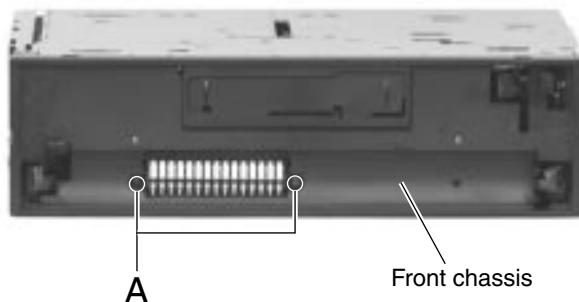

Fig.4
■ Removing the front chassis (See Fig.4,5)
■ Removing the head board (See Fig.4)
REFERENCE: When reassembling, twist the wires by turning the head board twice remarked **c** and pass through the notch **d** as shown in Fig.4.